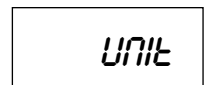

Figure 4
- Once in the unit menu, you may turn units of measure on and off. (See Figure 4)